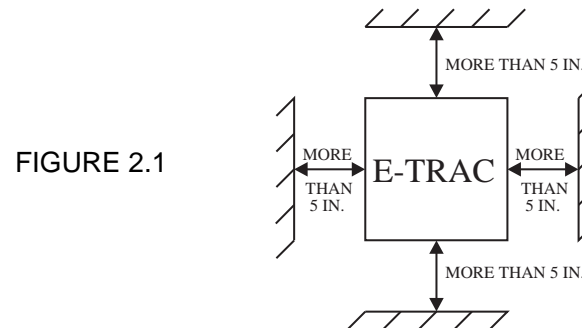

FIGURE 2.1
- The E-trAC® XFC generates heat. Allow sufficient space around the unit, as shown in Figure 2.1.